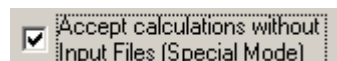

Fig. 13.1 Part of the "New Project" window where Special Mode can be started.
To start Special Mode from a new project (1) choose **File / Create New Project** and mark "*Accept calculations without Input Files (Special Mode)*" in the "New-Project" window (Fig. 13.1).